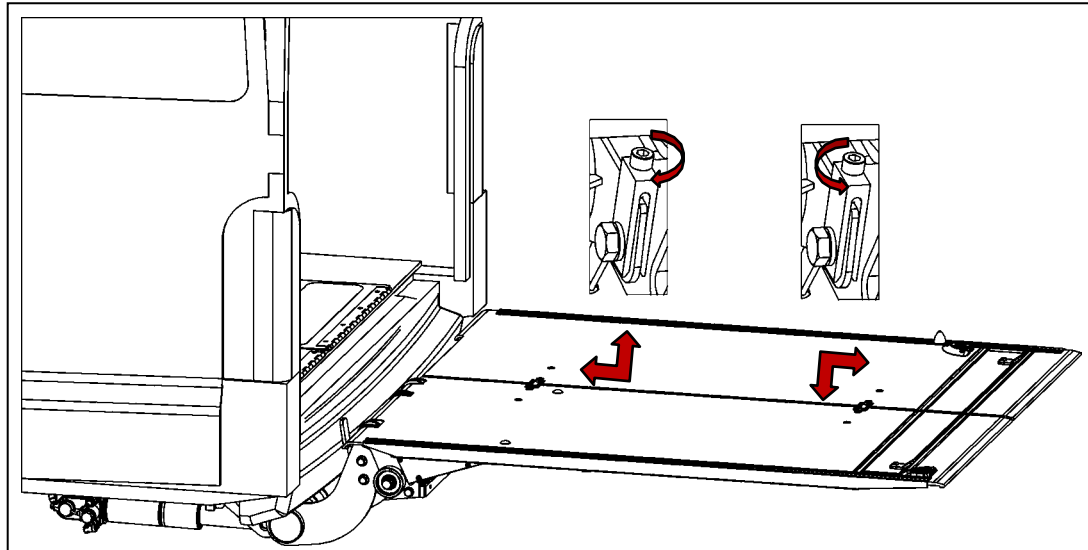

Figure 76
- Loosen the hex bolt (3).
- Rotate the adjustment screw (1) to the left or right.
- Rotating the adjustment screw (1) to the right moves the right side of the platform closer to the vehicle chassis. This slightly lifts the platform on the right side of the vehicle (see Fig. 76).
- Rotating the adjustment screw (1) to the left moves the right side of the platform away from the vehicle chassis. This slightly lowers the platform on the right side of the vehicle (see Fig. 76).